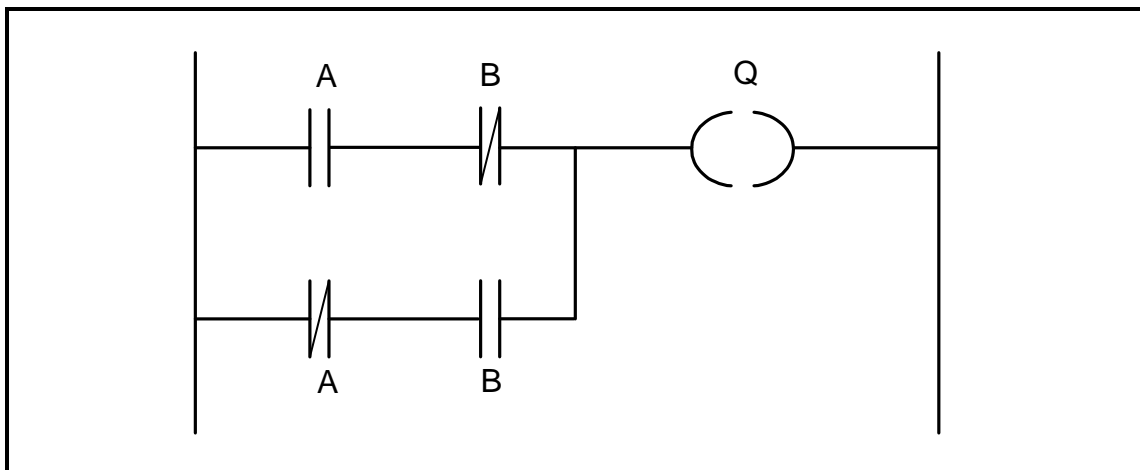

FIGURE 6.4: LADDER LOGIC CIRCUIT
- 6.4 FIGURE 6.4 below shows a ladder logic circuit. Answer the questions that follow.
- 6.4.1 Draw the logic gate symbol of the ladder logic circuit in FIGURE 6.4. (2)